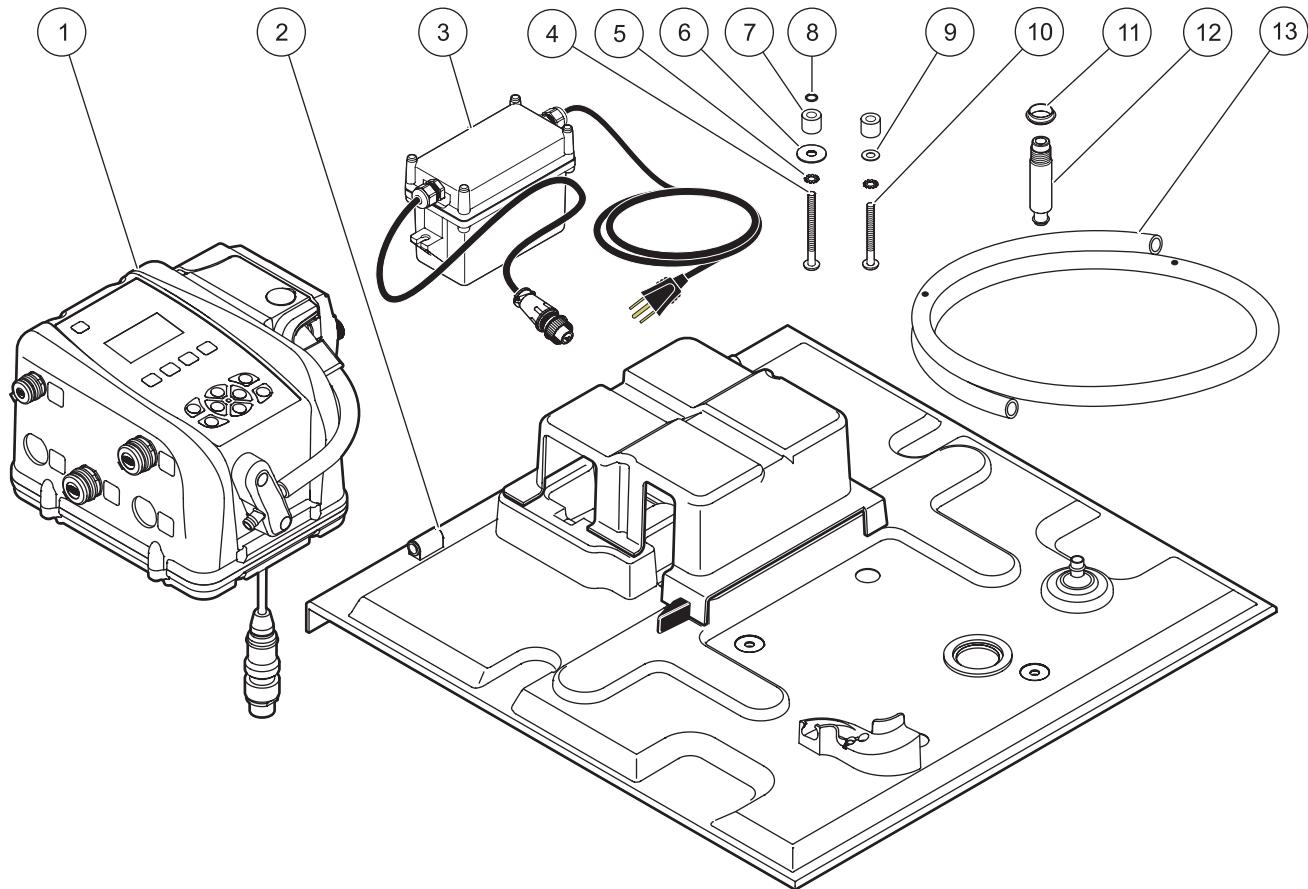
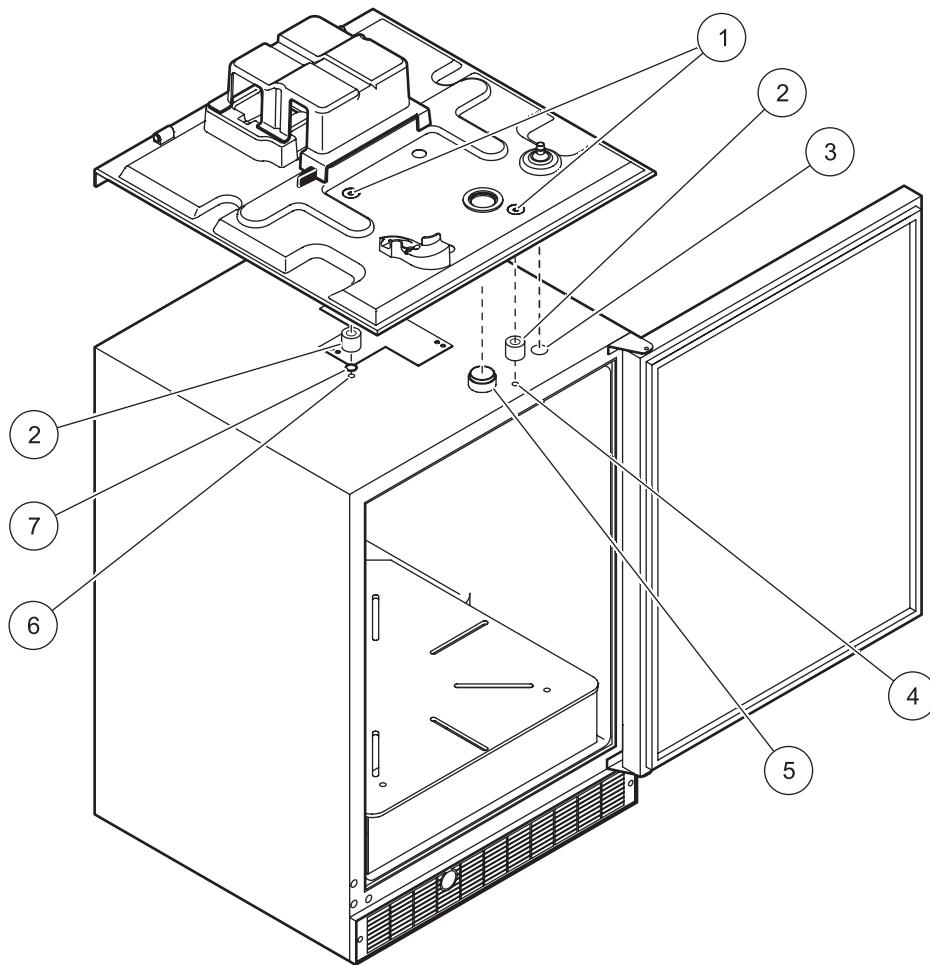

Figure 5 Components of retrofit kit 8759600 for the refrigerated sampler
Figure 7 Transition plate installation on the refrigerated sampler
The components of the retrofit kit for the refrigerated sampler are shown in Figure 5.
1. Position the new transition plate on top of the refrigerator so that the large hole in the transition plate aligns with the large hole in the refrigerator. Align the plastic tube fitting on the transition plate with the hole for the sample extension fitting (Figure 7).
2. Use the transition plate as a template and carefully mark the position of the two mounting holes on top of the refrigerator for the SD900 controller (Figure 7, item 1).
8. Install a lock washer and a 1/4 x 1-inch fender washer on the 3-inch 1/4-20 screw (Figure 5). To install the screw, push it through the rear controller mounting hole until a 3/4-inch length protrudes above the refrigerator (Figure 7). To keep the screw from falling into the refrigerator, install the O-ring onto the screw (Figure 5). Install one of the 3/4-inch spacers onto the length of screw protruding above the refrigerator (Figure 7).